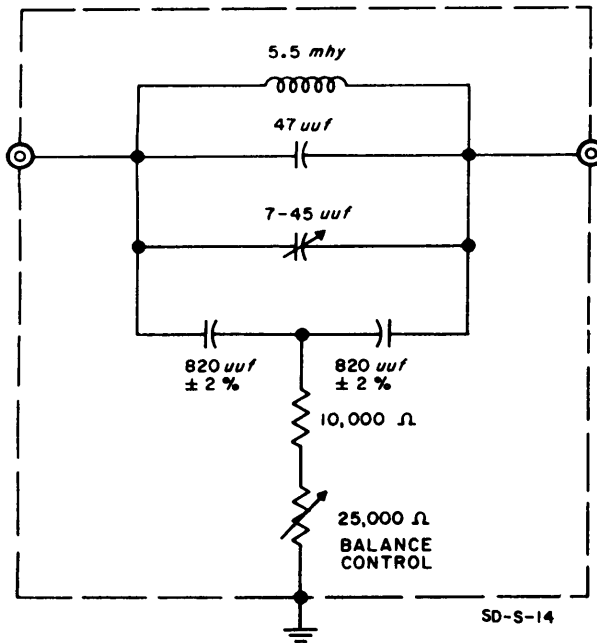

Figure 4-2. 100 kc Filter
g. Elimination filter for 100 kc as shown in Figure 4-2. Any coil and capacitor combination can be used that will resonate at 100 kc. If a different inductor is used, the value of the balance control and series resistor will have to be changed. The inductor shown in Figure 4-2 can be obtained under stock No. 9140-0002.
- D. Connect 100 kc filter shown in Figure 4-2 across output terminals and an external ac meter across filter output terminals. The meter used must be capable of accurately measuring frequencies that are harmonics of 100 kc. See block diagram given in Figure 4-4.